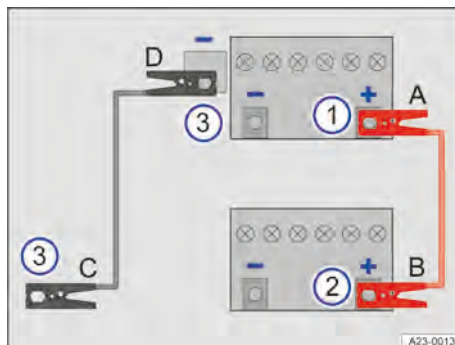

Fig. 187 How to connect the jump leads.
3. Connect one end of the red jump lead to the positive jump-start connection point in the vehicle with the discharged 12-volt vehicle battery → Fig. 187 ①.
4. Connect the other end of the red jump lead to the positive terminal (+) of the vehicle providing assistance → Fig. 187 ②.
→ Fig. 187 ③.
6. Connect the other end of the black jump lead to the earth jump-start connection point on the vehicle with the discharged 12-volt vehicle battery → Fig. 187 ②.